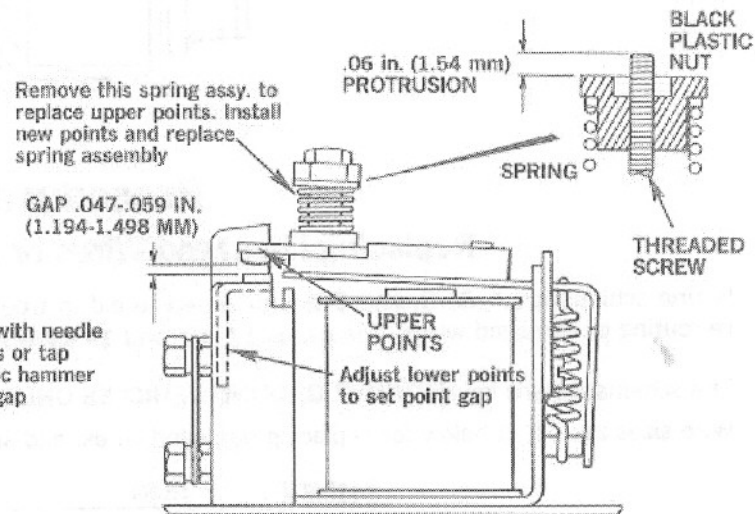

Figure 7
STEP 3 Remove upper points and install new points by reversing procedure. See Figure 7, page 11 for setting black plastic nut height to preload spring. After setting hold in place and tighten crown nut.
(See Illustration Figure 7 for details.)